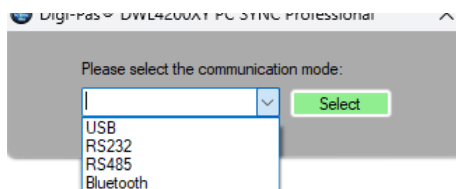

Figure 17. Shortcut of the DWL4x00XY PC SYNC
4. Assuming steps stated in 2.2 Configuration of Single Compact Sensor Module without control box and 3.1 Installation of the DWL4x00XY PC Sync Software have been done in this stage. Open PC SYNC software and select RS485 from the drop down menu as shown in Figure 17.